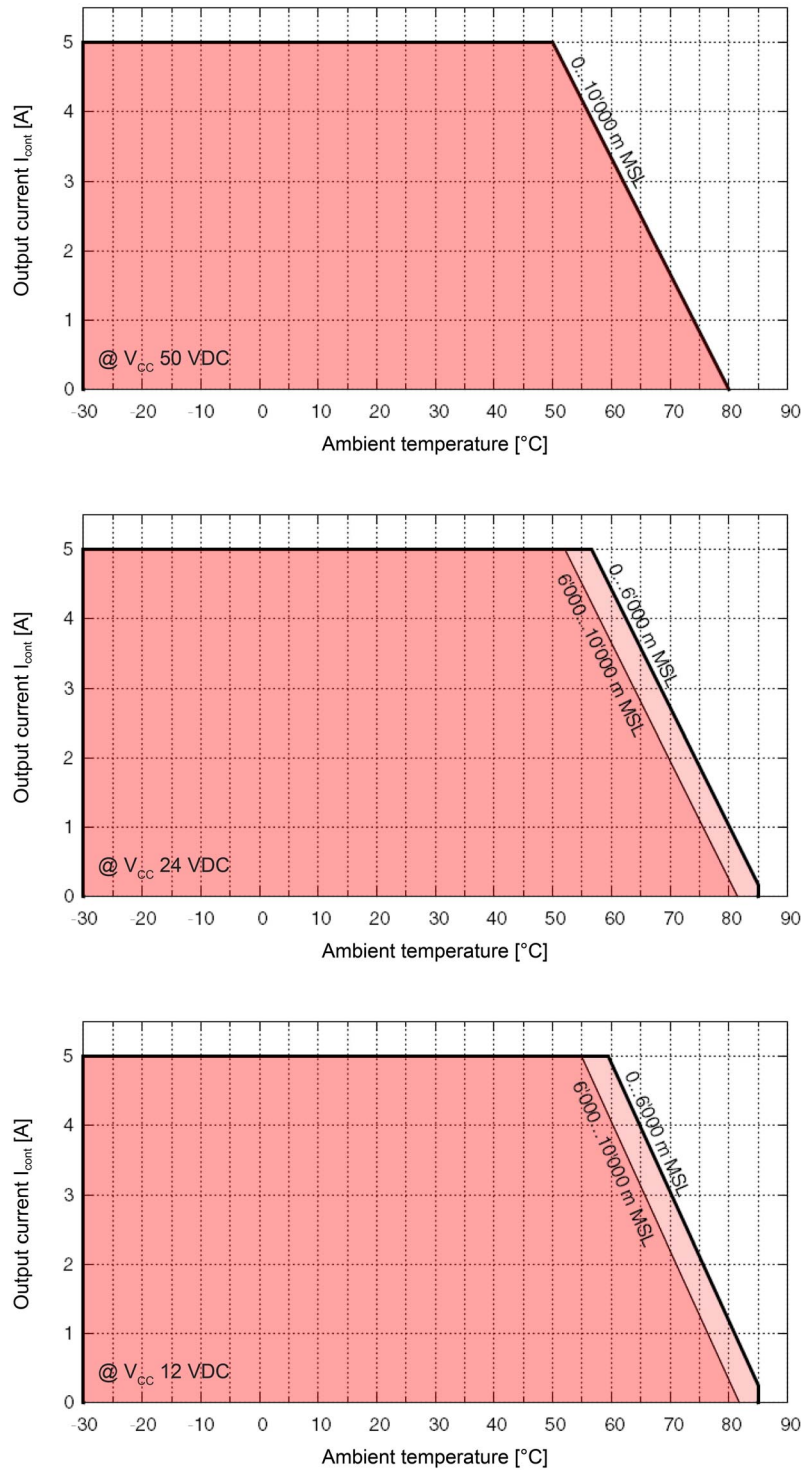

Figure 2-2 Derating of output current
Extended range 1)	+50...+80 °C; Derating: –0.167 A/°C (→Figure 2-2)
- 4) Derating further increases with an inserted extension card. For the actual value, consult →Figure 2-2 and shift the graph horizontally to the left by the specified value.